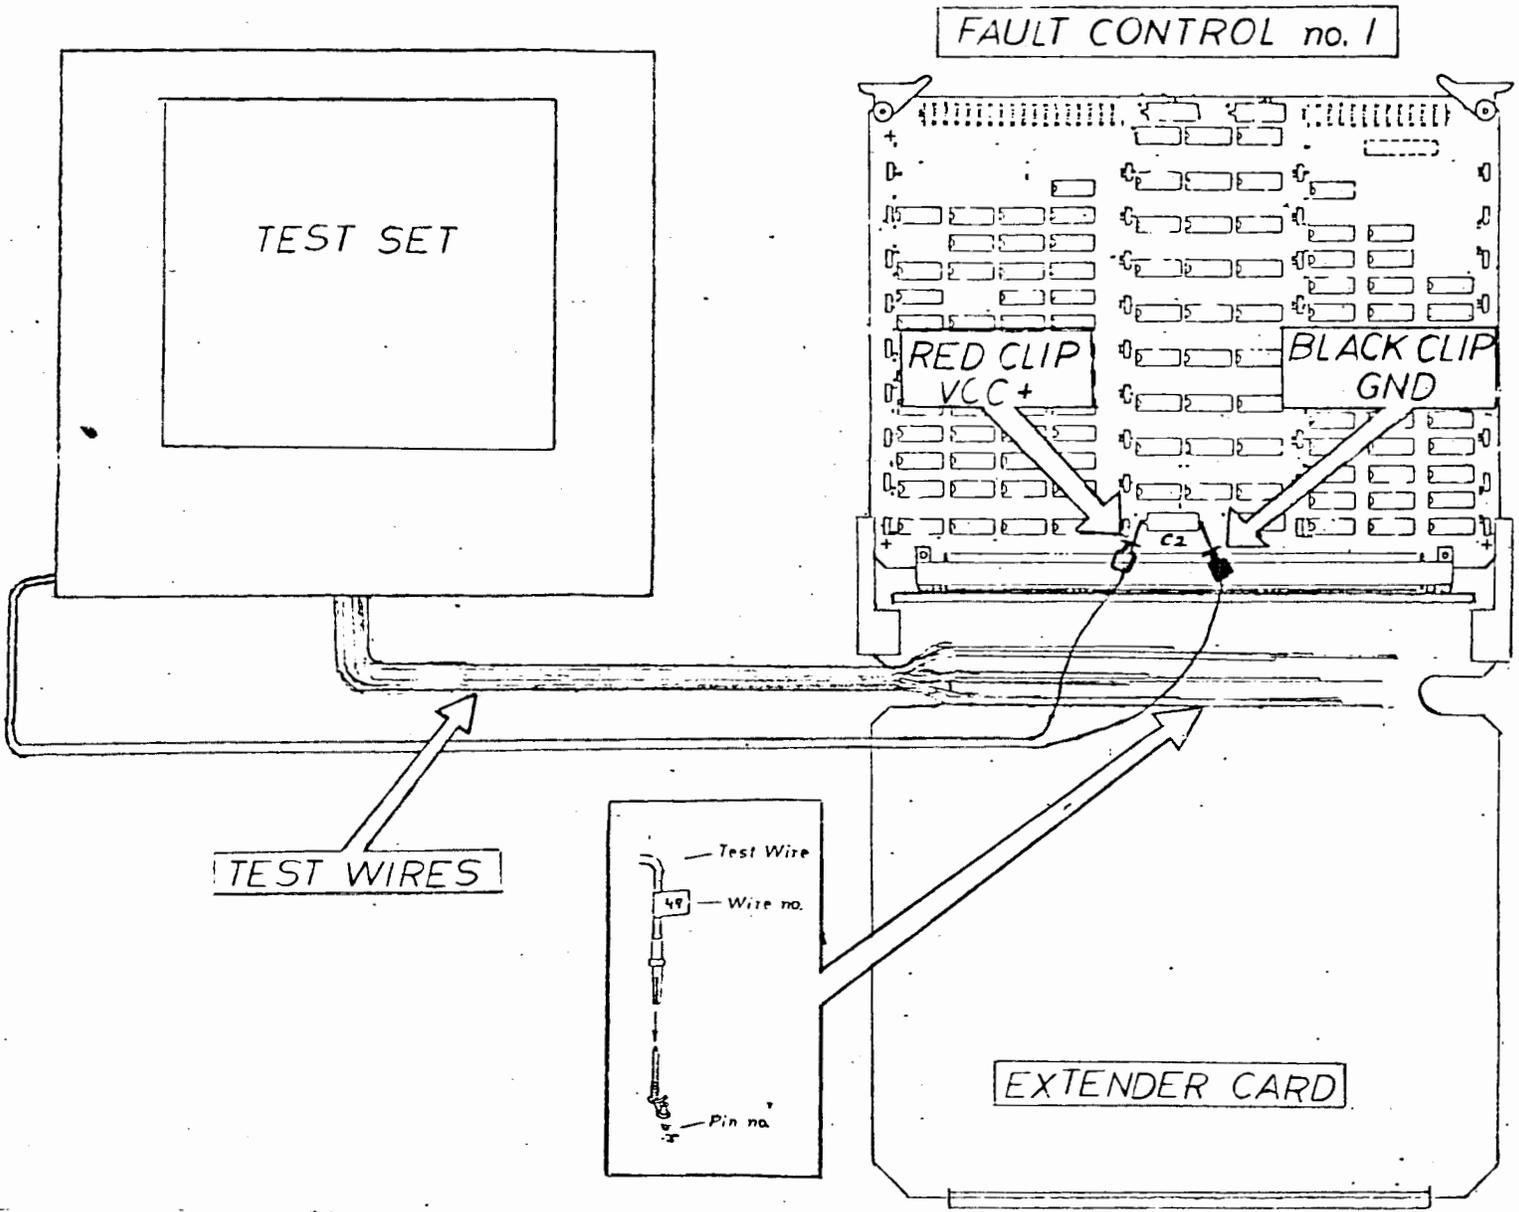

Figure A1 - Fault Control #1 Test Set Layout.
- A. Refer to figure A1 to set up the test set. Plug the card to be tested into the extender card. Lay the card and extender flat on a non-conductive surface.
- C. To Supply the +5v DC to the Fault Control #1 card, attach the red clip lead from the test set to the positive (+) side of C2 and the black clip lead to the negative side of C2. C2 is on the Fault Control #1 card. (see Fig. A1 for the location of C2)